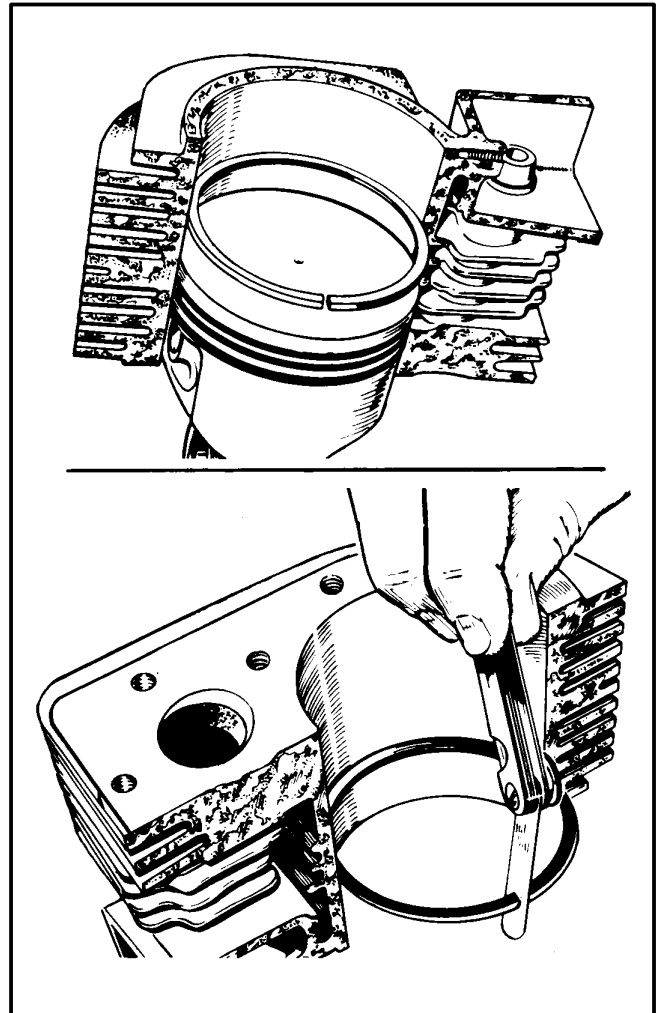

FIGURE 10-18. POSITIONING OF PISTON RING AND MEASURING OF END GAP
1. Install the piston ring in the cylinder bore. Invert the piston and push the ring to the end of the ring travel, about halfway into the bore, which trues the ring end gap. Check the gap with a feeler gauge as shown in Figure 10-18.